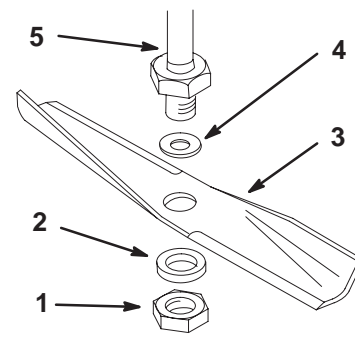

Figure 26
Note: Make sure the blade and hardware are install in the positions shown in Figure 26.
3. Remove the nut, flat washer, blade and washer (thick) (Fig. 26). A block of wood may be wedged between the blade and the mower to lock the blade when you are removing the bolt.
1. Install the washer, blade, flat washer, and the blade nut (Fig. 26).